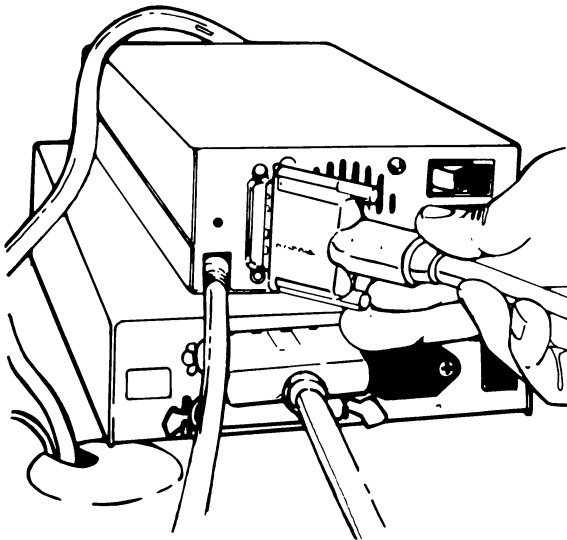

Figure 4
- 2) *Disconnect the first SCSI device of the chain from your system and connect it to the back of the tape drive (Figure 4).*